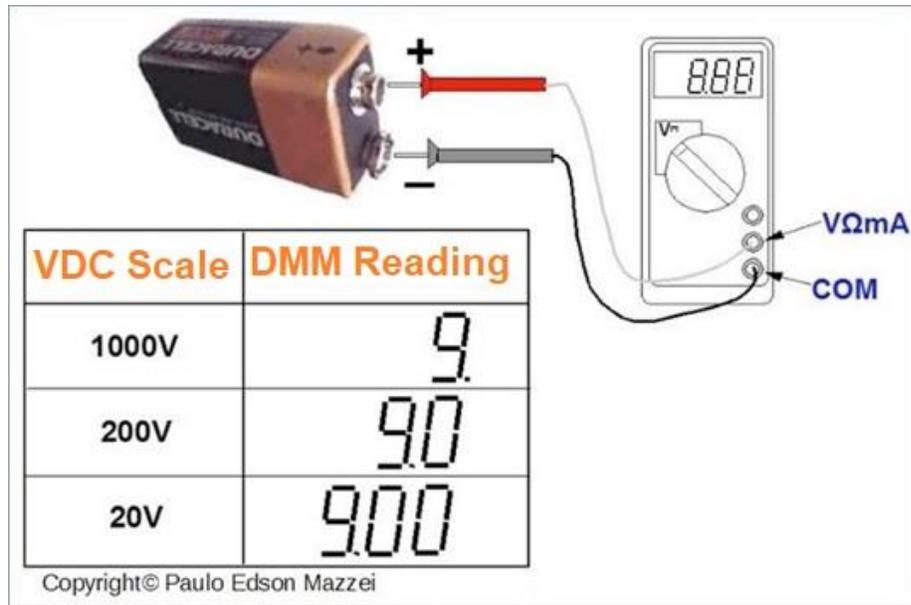

Figure 22 - Measurement of the voltage of a 9 Volt battery.
▶ Since the 9 V voltage is written to the battery body, you must choose a voltage on the multimeter range that is above this value. See **figure 22**.
The multimeter must be disconnected from the custom circuit. For example, see **Figure 22** for measuring the voltage of a 9 V battery. In **Figure 22**, the most accurate reading is on the 20 V range.